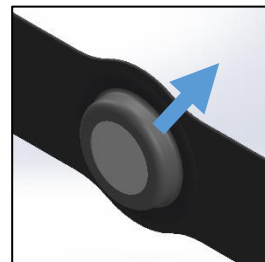

Figure 13 Remove Device
1. While holding the belt in both hands, use your thumbs to firmly push the white side of the disc until it pops out of the rubber, as shown in Figure 13.